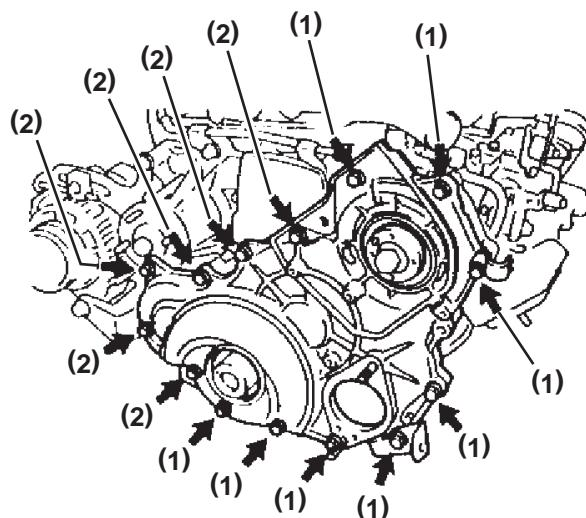

Figure 5-216
14. Apply the seal packing (TOYOTA P/N 08826-00080 or equivalent) to the timing gear cover as shown in **Figure 5-216**.
- Attach a nozzle cut to a sealing width of 2 to 3 mm (0.078 to 0.118 in.) (**Figure 5-216, (1)**).